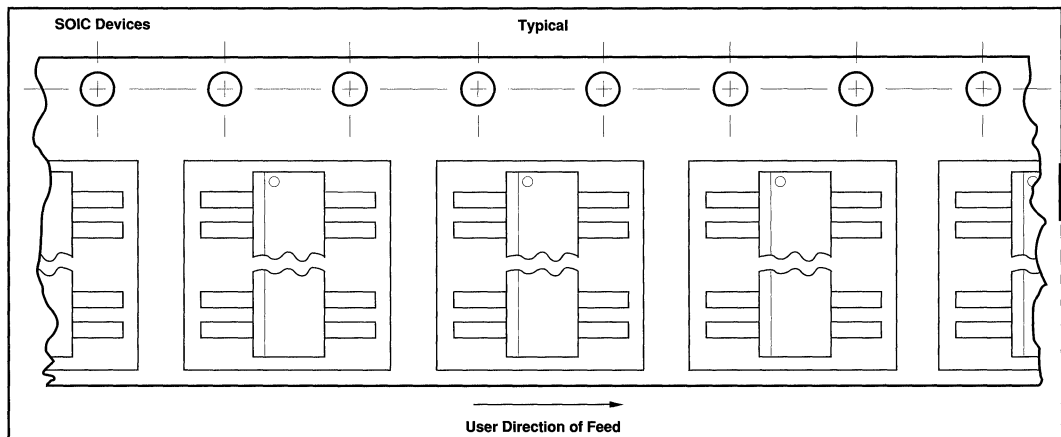

FIGURE 2.
(1) Controlling dimension: Inch. In case of conflict between the English and metric dimensions, the inch dimensions control.
- (2) Dimensioning and tolerancing per ANSI Y14.5M-1982.
- (3) Dimensions A, A₁, and L are measured with the package seated in JEDEC seating plane gauge GS-3.
- (4) D and E₁ dimensions for plastic packages do not include mold flash or protrusions. Mold flash or protrusions shall not exceed .010 inch (0.25mm).
- (5) E and eA measured with the leads constrained to be perpendicular to plane T.
- (6) eB is measured at the lead tips with the leads unconstrained.
- (7) N is the maximum number of terminal positions.
- (8) Corner leads (1, 4, 5, and 8) may be configured as shown in Figure 2.
- (9) For automatic insertion, any raised irregularity on the top surface (step, mesa, etc.) shall be symmetrical about the lateral and longitudinal package center-lines.